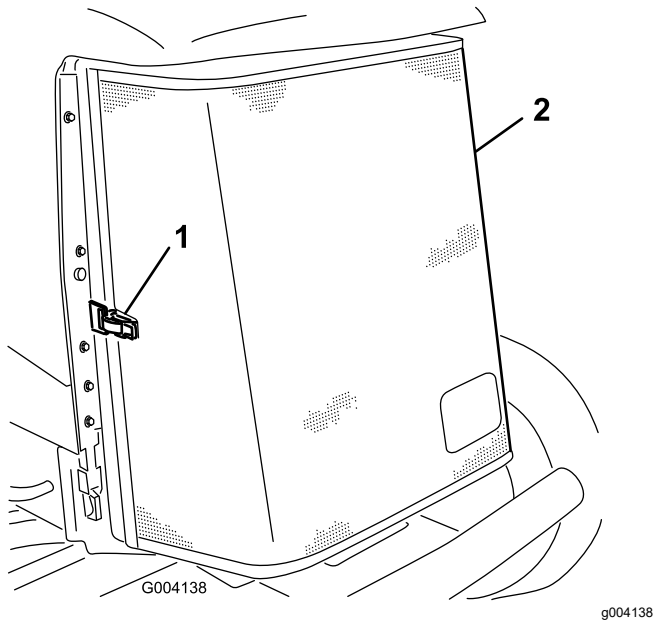

Figure 109
5. Unlatch the rear screen and pivot it open (Figure 109).